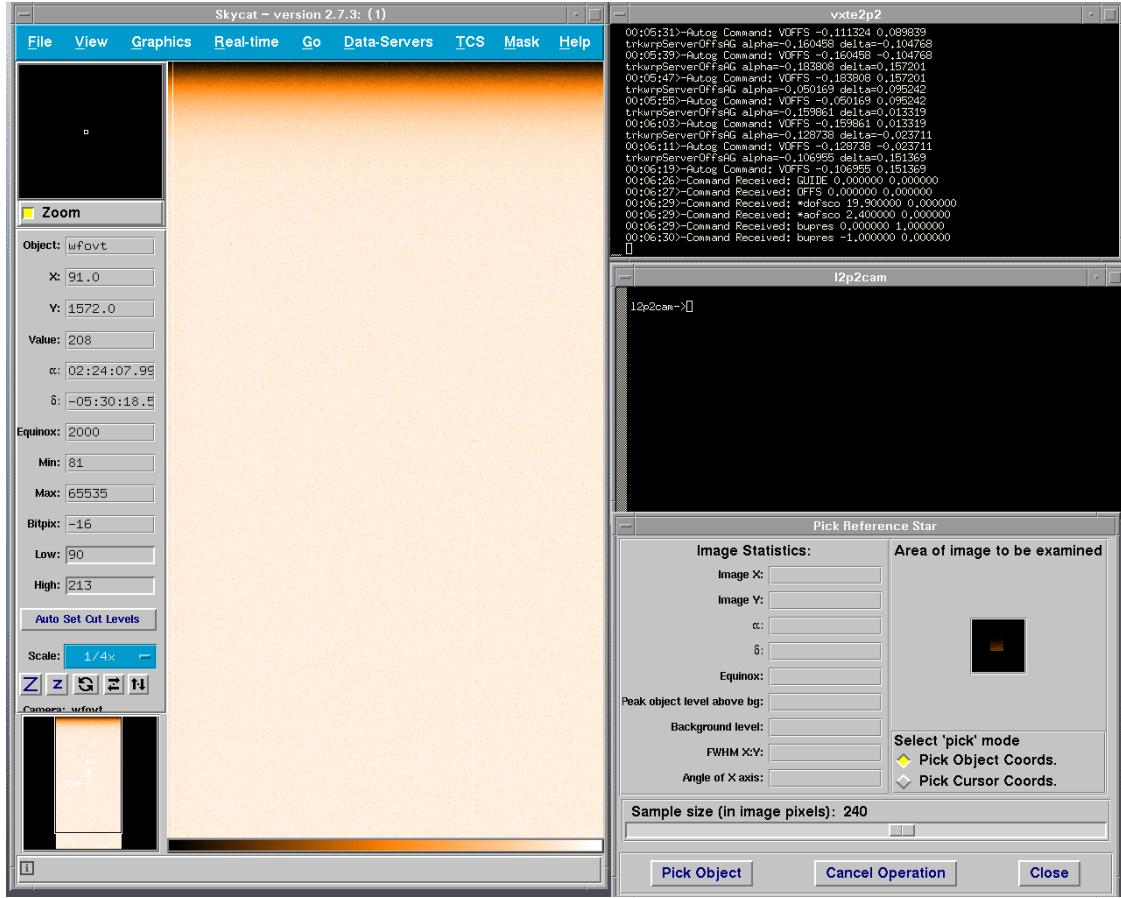

Figure 11.3: The **AG** field is displayed on the **TCS rtD** (left) where the reference star can be picked (using lower right window).
**WFI AG.** The buttons of interest are **Retrieve field** (to probe the **AG** field, displayed in Fig. 11.3, p. 95), **Box to star** (to start the guiding when a guide star has been picked) and **Off** (to turn off the **AG**). Tuning of the **AG** (e.g. integration time) can be done on the Autoguider area of the **TCS** setup panel (Fig. 11.2, p. 94).